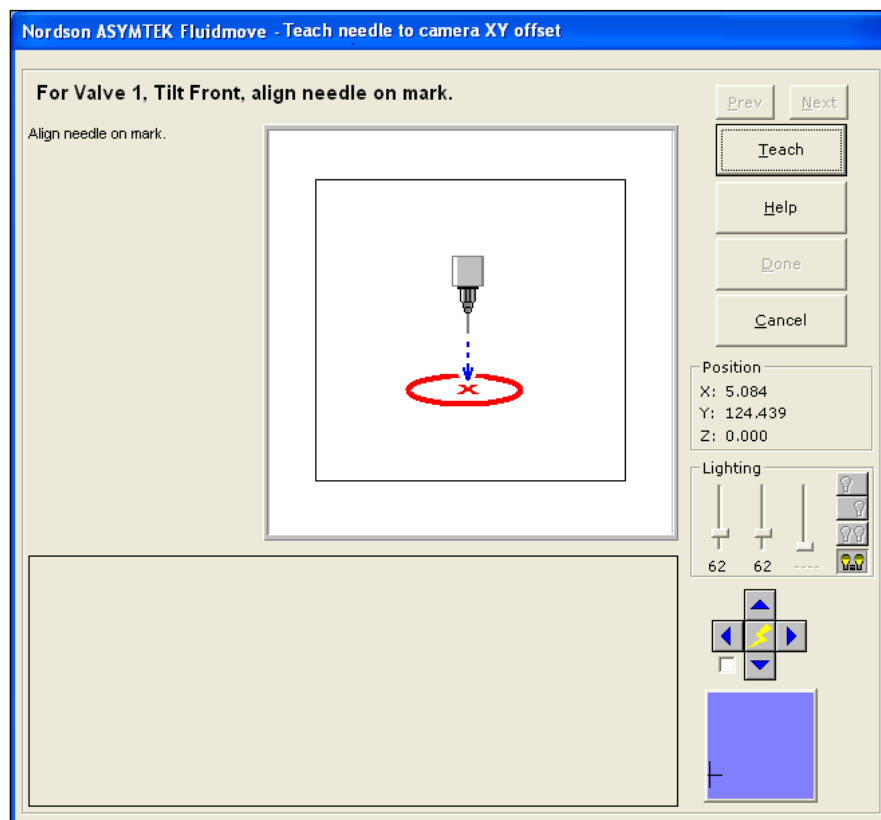

Figure 4-7 Teaching Needle-to-Camera XY Offset
*To teach needle to camera XY offset (Figure 4-7):*